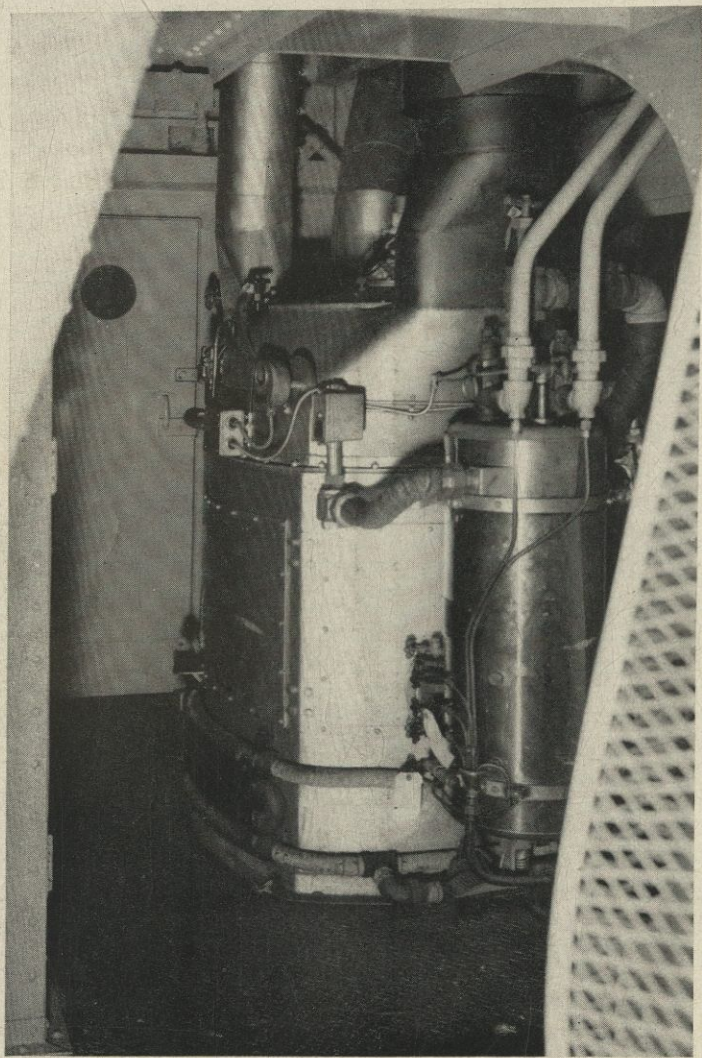

Fig. 1
1. The steam generators used on Diesel locomotives are made by the Vapor Car Heating Company. Fig. 1 is a view of one of these generators in place inside the rear door of an Alco-G. E. Diesel road locomotive. The generator is an oil fired flash boiler, designed for continuous automatic operation while in service.
11. Figure 2 should be used to follow the explanation of the operation of the generator. Figs. 3 and 4 should be used to determine the appearance and actual location of the various parts of the assembly. Fig. 1 shows a type CFK 4225-2A generator, that is, a generator without the remote control feature. Fig. 2 is a diagram of this assembly. Figs. 3 and 4 show how this assembly is rearranged for the application of the remote controls; that is, Figs. 3 and 4 illustrate the type CFK 4225-3A generator. Since Figs. 3 and 4 illustrate a generator before it is installed, not all of the parts are shown; for example, the water treatment tank is missing, the stack temperature switch and its connection are missing, etc.